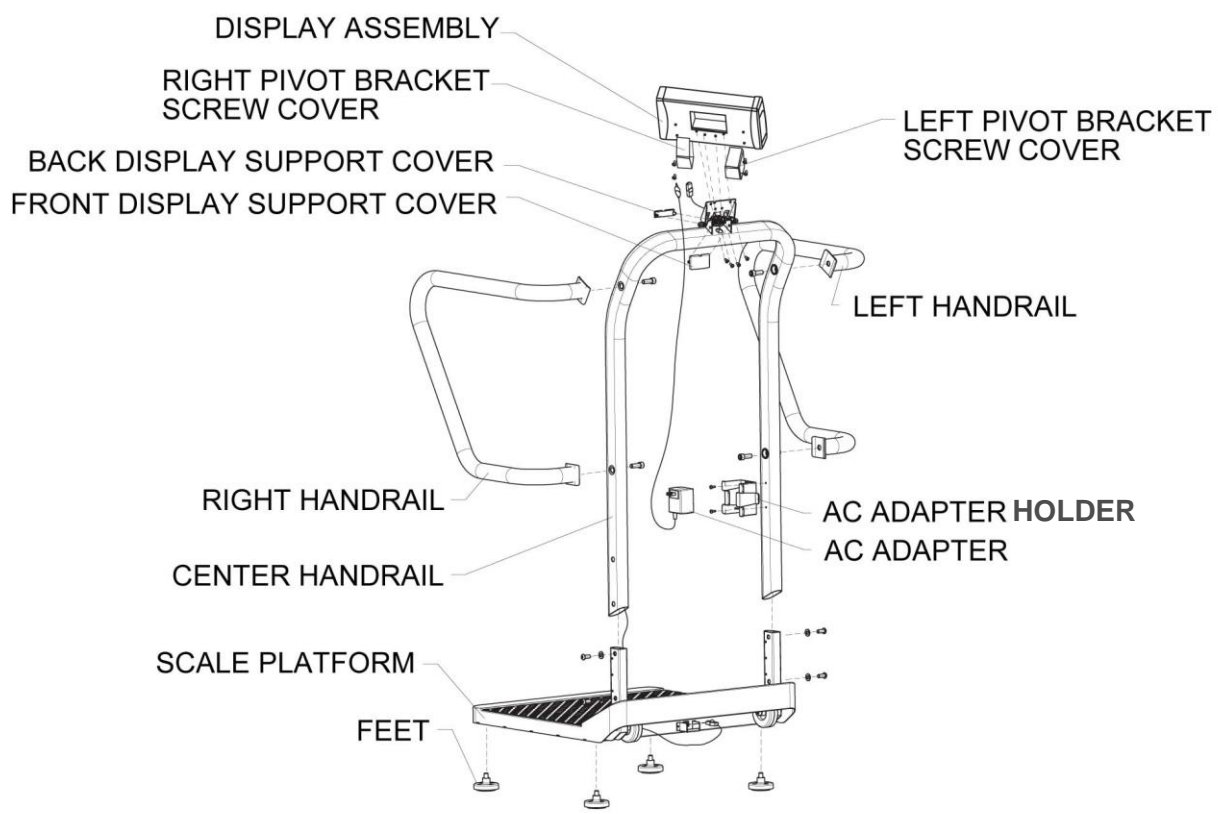

Figure 2
2. Locate and pick up the center handrail. Find the load cell cable connector, located at the bottom of the center handrail. Untie it and pull it out the bottom (see Figures 2 & 3 on pages 9 & 10).
3. Position the center handrail over the handrail supports on the platform and feed the cable through the handrail support hole located on the right handrail support in the platform. Be sure not to pinch the cable (see Figures 2, 3, & 7 on pages 9, 10, & 11).
8. Pull the excess cable through the top of the center handrail (see Figure 2 on page 9).
9. Thread the (4) feet into the underside of the platform. Each foot should be completely hand tightened. Once tighten, back feet out 1-½ full turns. This allows for proper load cell operation for accuracy of the scale (see Figures 2 & 7 on pages 9 & 11).
12. Position the display assembly close to the display support. Plug the load cell cable connector into the load cell port on the rear of the display assembly (see Figures 2 & 6 on pages 9 & 11).
17. Attach the front and rear display support covers, applying light pressure to snap these covers into place (see Figure 2 on page 9).